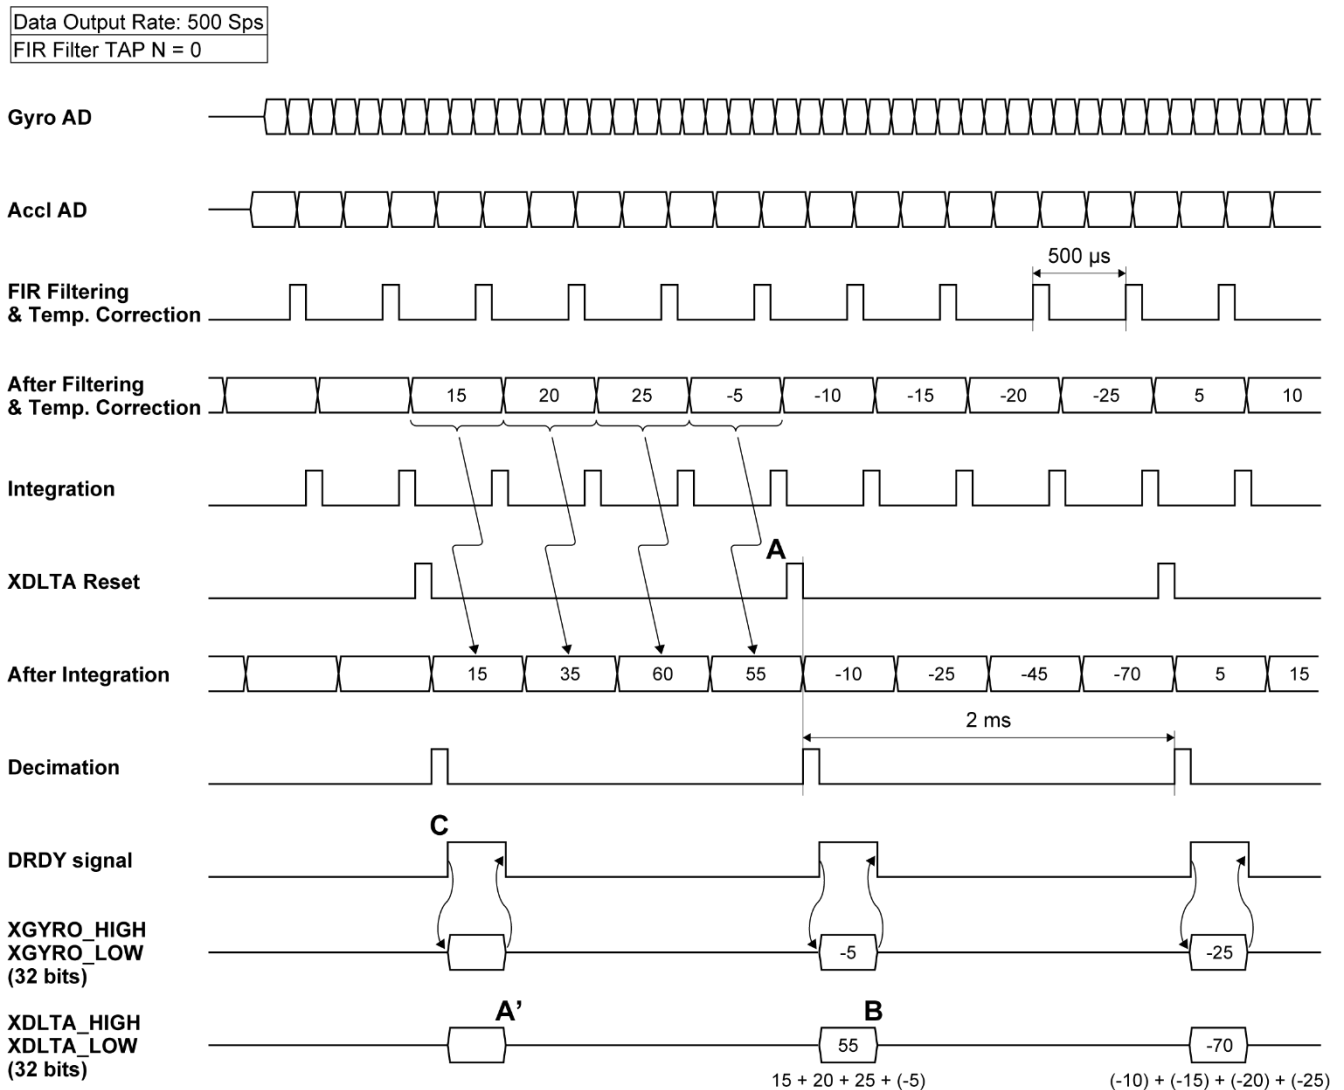

Figure 4.15 Delta Angle / Delta Velocity
For example, in case of down-sampling ratio 4:1 (**DOUT_RATE** of **SMPL_CTRL**[0x05 (W1)] = 0x02), the integration data of four x-axis angular rate and x-axis linear acceleration values after filtering and temperature correction is stored in **XDLTA_HIGH** and **XDLTA_LOW** (Register[0x64–0x67 (W0)]), and **XDLTV_HIGH** and **XDLTV_LOW** (Register[0x70–0x73 (W0)]) respectively in 32-bit data format. Figure 4.15 shows the timing diagram in the case of down-sampling ratio 4:1, 500 sps and Filter TAP: N = 0.
- When using Delta Angle / Delta Velocity output with UART_AUTO disabled (UART_CTRL[0x08 (W1)] bit 0 = 0), send BURST_CMD within 500us of DRDY assertion (point C in Figure 4.15).